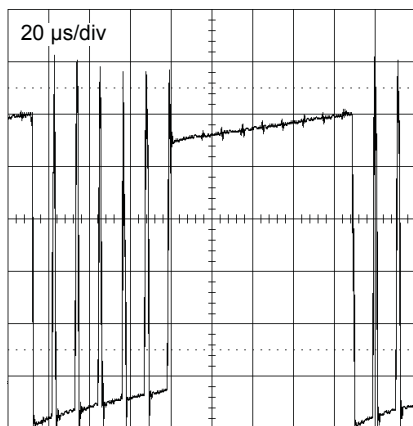

Figure 14. Example of a Sensex terminal waveform during hunching phenomenon
• **Blanking time and seeking phenomenon** Although current control can be improved by shortening blanking time, the degree of margin to a ringing noise decreases simultaneously. For this reason, when a motor is driven by the device, a seeking phenomenon may occur. Figure 14 shows an example of the waveform when the phenomenon occurs.